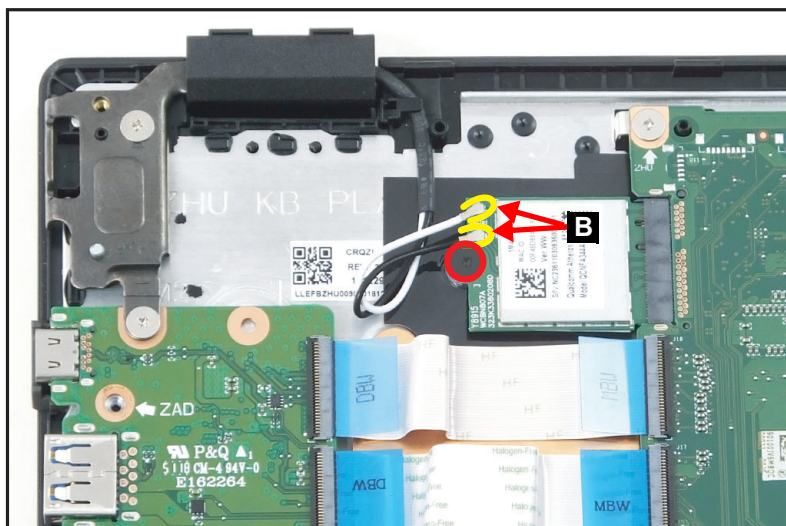

Figure 1-16. WLAN Module Removal
2. Disconnect WLAN antennas cables (B) from the WLAN module connectors (Figure 1-16).
3. Remove one (1) screw securing the WLAN module in place (Figure 1-16).